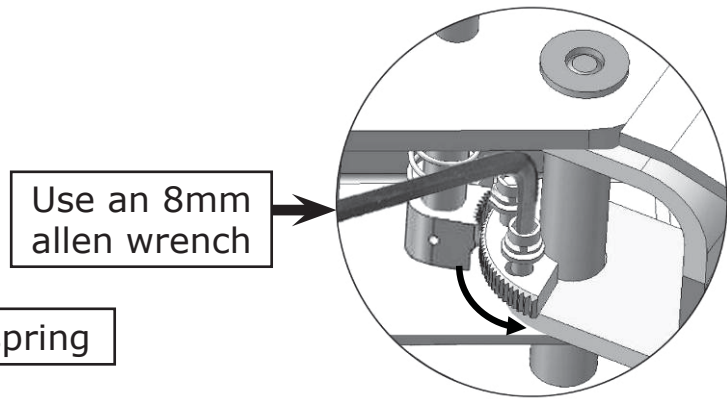

Fig. 26
2. Lower the carriages down to the lowest position, then use the 8mm allen wrench to loosen the nut of arm lock (See Fig. 26).